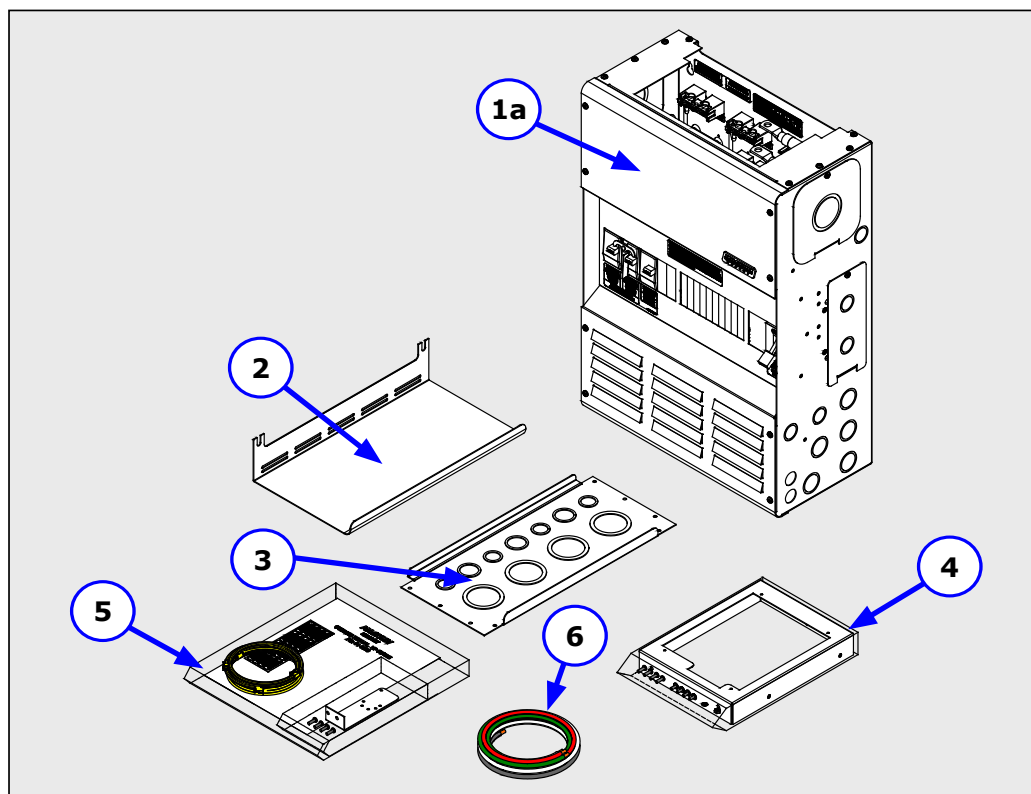

Figure 3-1, Parts Included - MPSL and MPSH Models
- Unpack the MP enclosure box and remove the components. Verify that you have the components and hardware as listed below in Section 3.1.1 (and shown in Figures 3-1 and 3-2).
Refer to Figures 3-1 or 3-2 (and the item list below) for your particular MP model to verify the necessary parts are included. If items are missing, contact your authorized Magnum Energy dealer or Magnum Energy.